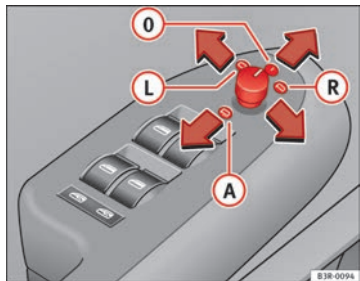

Fig. 104 Detailed view of the armrest: Adjuster knob
- Turn the adjuster knob to position ⇒ Fig. 104 **L** (left exterior mirror) or position **R** (right exterior mirror).
When reverse gear is engaged, the mirror surface tilts slightly downwards, provided the mirror control is switched to the exterior mirror on the passenger side (knob in position **R** ⇒ Fig. 104). This provides a better view of the kerb when parking.